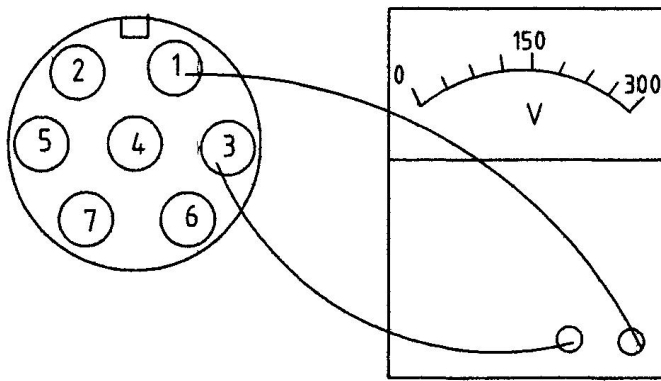

Figure 6
- 2) Lead 2 lines(for the filament transformer) out from inside the socket(1), (3) of 7-plug cable electric outlet
- 3) At socket (1), (3), lead & connect an 300V alternating current voltmeter. (See figure 6)